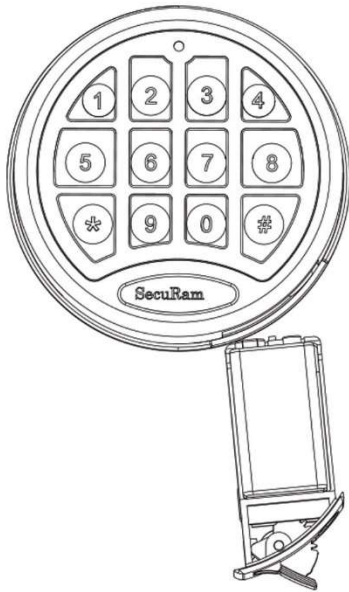

Fig. 6
6. Install battery: Make sure to connect the battery correctly at the positive and negative poles. Slide the battery compartment into the bottom of Entrypad, as shown. Push it up until it is in line with or level with the cover. Pull up the latch of the battery compartment until it is tight and secure too. (Fig. 6&7)